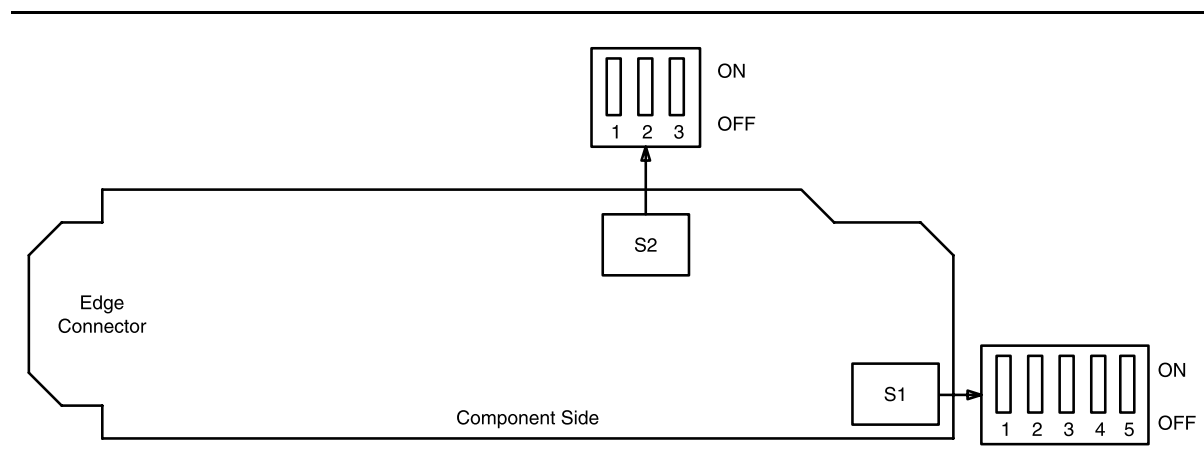

Figure 3 – BBF2B/BBF2C TGS or BBF4 TG3 Option Switch
Determine timing mode from work order or office records. Refer to Table F and Figure 3 and set timing mode as required for **BBF2B/BBF2C TGS** or **BBF4 TG3** circuit pack(s).
12. If the **BBF2B/BBF2C TGS** or **BBF4 TG3** is provisioned for *sync out mode*, refer to Table H and Figure 3 and set equalizer switches for the proper cable length.
14. Refer to Table H and Figure 3 and set the DS1 line coding and frame format as required for the **TGS/TG3** circuit pack.